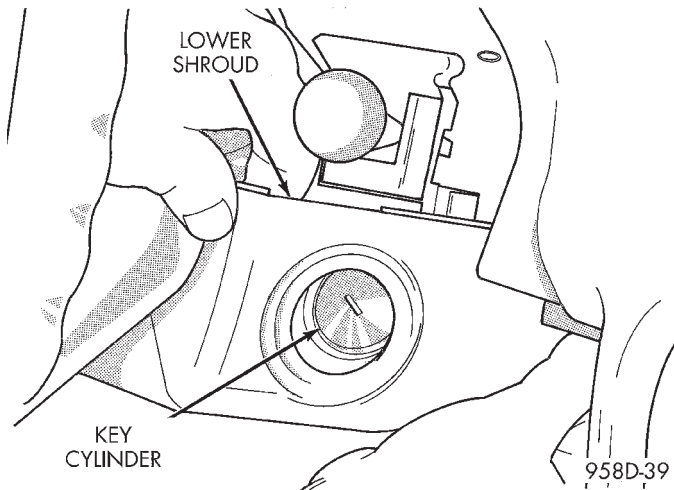

Fig. 17 Remove Lower Shroud From Ignition Cylinder
- (13) Pull lower shroud to clear ignition cylinder (Fig. 17).